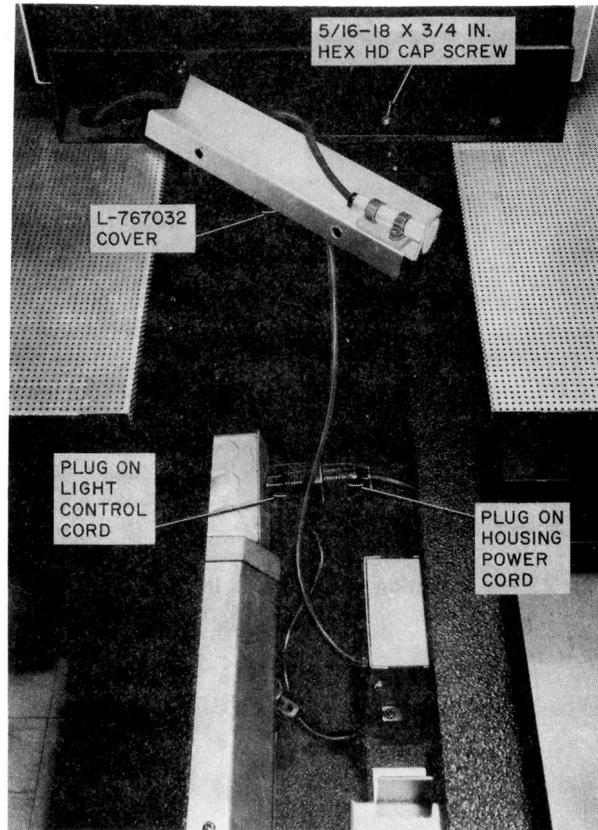

Fig. 28—KS-19261, List 4 Light Control Unit (Early Model) Installed With List 32 Housing (Typical for Lists 33, 34, 35, and 35A Housing)
- (1) Using KS-19192, List 1 wrench, remove the front panel from the post or mounting.
- (2) Remove the two nuts and washers from the L-767032 cover located under shelf (Fig. 28).
- (3) Insert cell from inside the post through hole in lower part of housing and install the KS-19261, List 4 light control box on mounting bracket in lower right portion of post or mounting.
- (4) Fasten the light cell to the L-767032 cover using the two clamps and screws provided with the light control. Position the end of the cell so that it just touches the plastic plug located in end of cover.
- (5) Plug the light control cord into the electrical outlet (Fig. 28).
- (6) Insert the housing power cord into the rear of the light control cord.
- (7) Install the L-767032 cover (Fig. 28) under shelf and install front panel on post or mounting.
- (1) Using a KS-19192, List 1 wrench, remove the B-994955 cover from bottom of mounting.
- (2) Remove the two hex nuts and washers from the L-767032 cover located under the shelf (similar to Fig. 28).
- (3) In bottom cavity of List 45 mounting, unplug the electrical cord from electrical connector.
- (4) Loosen cable clamp and pull excess amount of electrical cord back up into wire channel in left-rear portion of housing.
- (5) From inside bottom cavity of mounting, push light sensitive cell through power cord hole.
- (6) Fasten the light cell to the L-767032 cover using the two clamps and screws provided with light control. Position the end of the cell so that it just touches the plastic plug located in end of cover.
(7) Plug the connector of light control unit into the electrical connector of mounting.
(8) Plug housing cord into rear of control unit plug.
(9) Insert control unit into bottom of cavity in mounting and install B-994955 cover removed in Step (1).
(10) Using the two hex nuts and washers removed in Step (2) secure L-767032 cover to shelf.